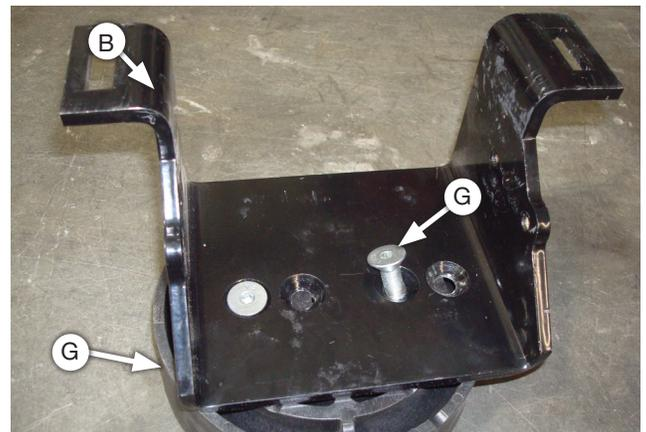

Fig. 11
2. Use the first and third holes on each bracket to attach the cradle (Fig. 11). Attach the cradle onto the air spring with two 3/8" flat head screws, two flat washers and thin nylon lock nuts (hardware supplied in cradle kit (G)).